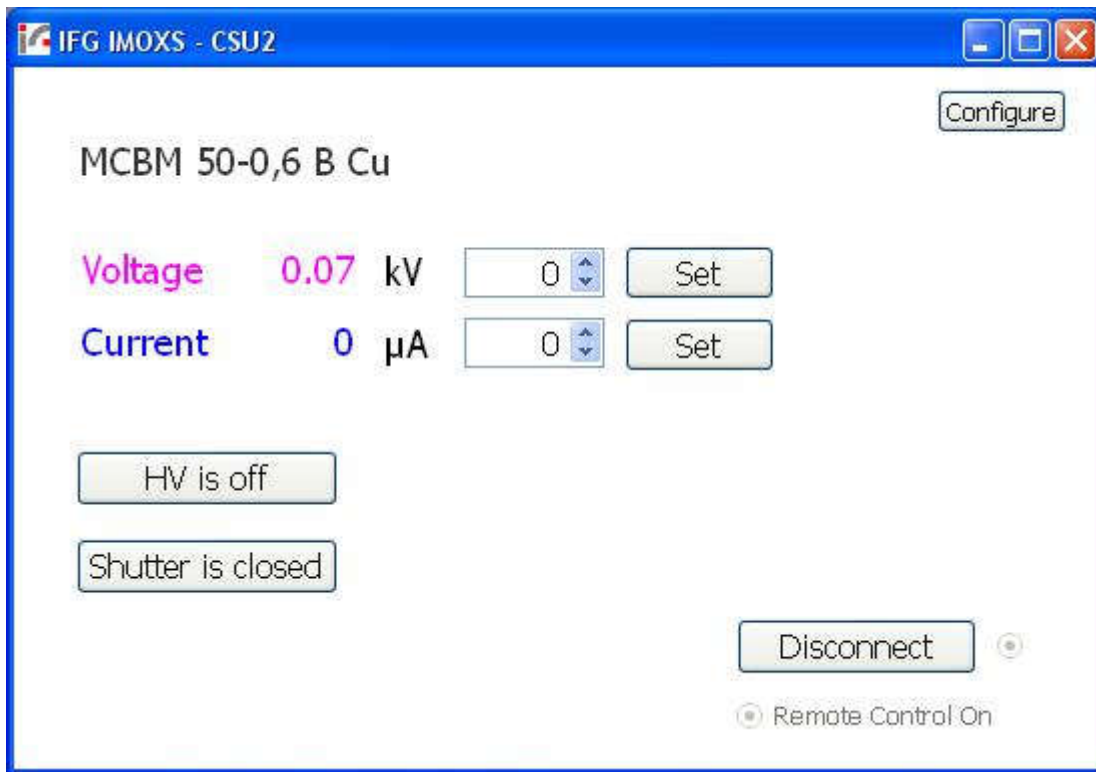

Fig. 2: The connection to the CSU 2 is successful if the “connect” button is now “disconnect”.
- In case the CSU software is used with the system for the first time it is required to use “Configure” to set the right X-ray tube that is used in your iMOXS (MCBM 50-0,6 B Cu in **Fig. 2**).